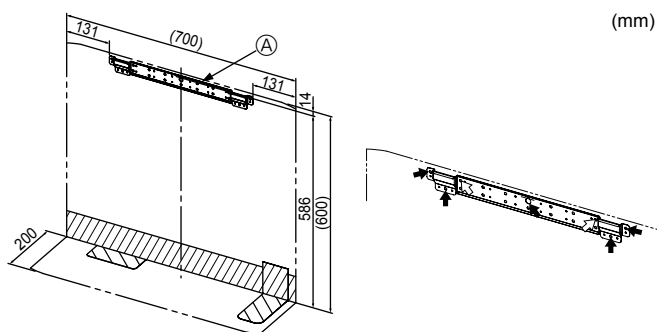

Fig. 3-1
- Install the bracket firmly to the wall structure (stud, etc.). (Fig. 3-1)